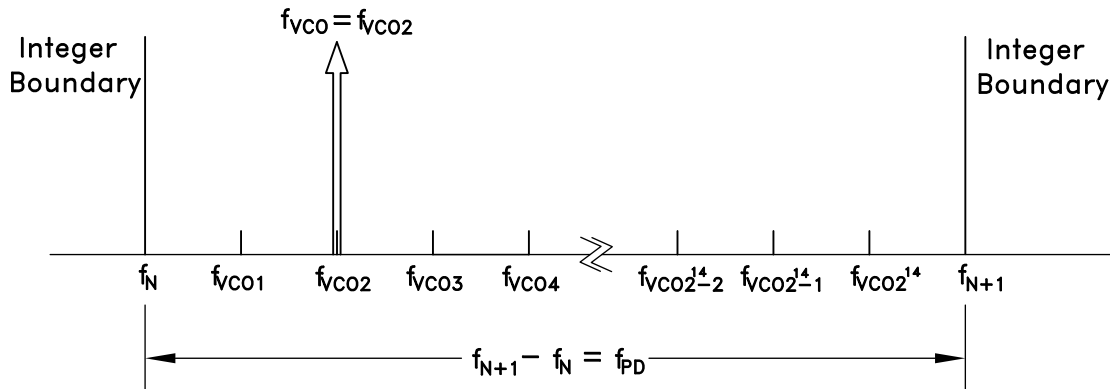

Figure 47. Exact Frequency Tuning
and  $f_{VCOk}$  are the channel step frequencies where  $0 < k < 2^{24}-1$ , As shown in Figure 47.
Some fractional PLLs are able to achieve this by adjusting (shortening) the length of the Phase Accumulator (the denominator or the modulus of the Delta-Sigma modulator) so that the Delta-Sigma modulator phase accumulator repeats at an exact period related to the interval frequency ( $f_{VCOk} - f_{VCO(k-1)}$ ) in Figure 47. Consequently, the shortened accumulator results in more frequent repeating patterns and as a result often leads to spurious emissions at multiples of the repeating pattern period, or at harmonic frequencies of  $f_{VCOk} - f_{VCO(k-1)}$ . For example, in some applications, these intervals might represent the spacing between radio channels, and the spurious would occur at multiples of the channel spacing.
If it is desirable to have multiple, equally spaced, exact frequency channels that fall within the same interval (ie.  $f_N \leq f_{VCOk} < f_{N+1}$ ) where  $f_{VCOk}$  is shown in Figure 47 and  $1 \leq k \leq 2^{14}$ , it is possible to maintain the same integer-N (Reg 03h) and exact frequency register (Reg 0Ch) settings and only update the fractional register (Reg 04h) setting. The Exact Frequency Channel Mode is possible if (EQ 16) is satisfied for at least two equally spaced adjacent frequency channels, i.e. the channel step size.
To configure the HMC832LP6GE for Exact Frequency Channel Mode, initially and only at the beginning, integer (Reg 03h) and exact frequency (Reg 0Ch) registers need to be programmed for the smallest  $f_{VCO}$  frequency ( $f_{VCO1}$  in Figure 47), as follows:
1. Calculate and program the integer register setting  $\text{Reg 03h} = N_{INT} = \text{floor}(f_{VCO1}/f_{PD})$ , where  $f_{VCO1}$  is shown in Figure 47 and corresponds to minimum channel VCO frequency. Then the lower integer boundary frequency is given by  $f_N = N_{INT} \cdot f_{PD}$ .
$$\text{Reg04h} = N_{FRAC} = \text{ceil} \left( \frac{2^{24} (f_{VCOk} - f_N)}{f_{PD}} \right) \quad \text{where } f_N = \text{floor}(f_{VCO1}/f_{PD}), \text{ and } f_{VCO1}, \text{ as shown in Figure 47, represents the smallest channel VCO frequency that is greater than } f_N.$$
4. To change from channel 1 ( $f_{VCO1} = 2800.2$  MHz) to channel 2 ( $f_{VCO2} = 2800.3$  MHz), only Reg 04h needs to be programmed, as long as all of the desired exact frequencies  $f_{VCOk}$  (Figure 47) fall between the same integer-N boundaries ( $f_N < f_{VCOk} < f_{N+1}$ ). In that case